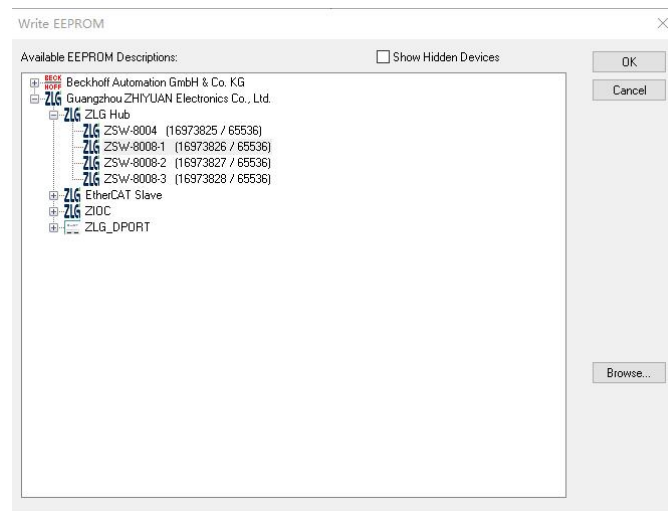

Figure5.3 Writing the ESI File to EEPROM
3. Navigate to the flashing interface, select the corresponding ESI file, and click OK to start flashing the ESI file, as shown in Figure 5.3.